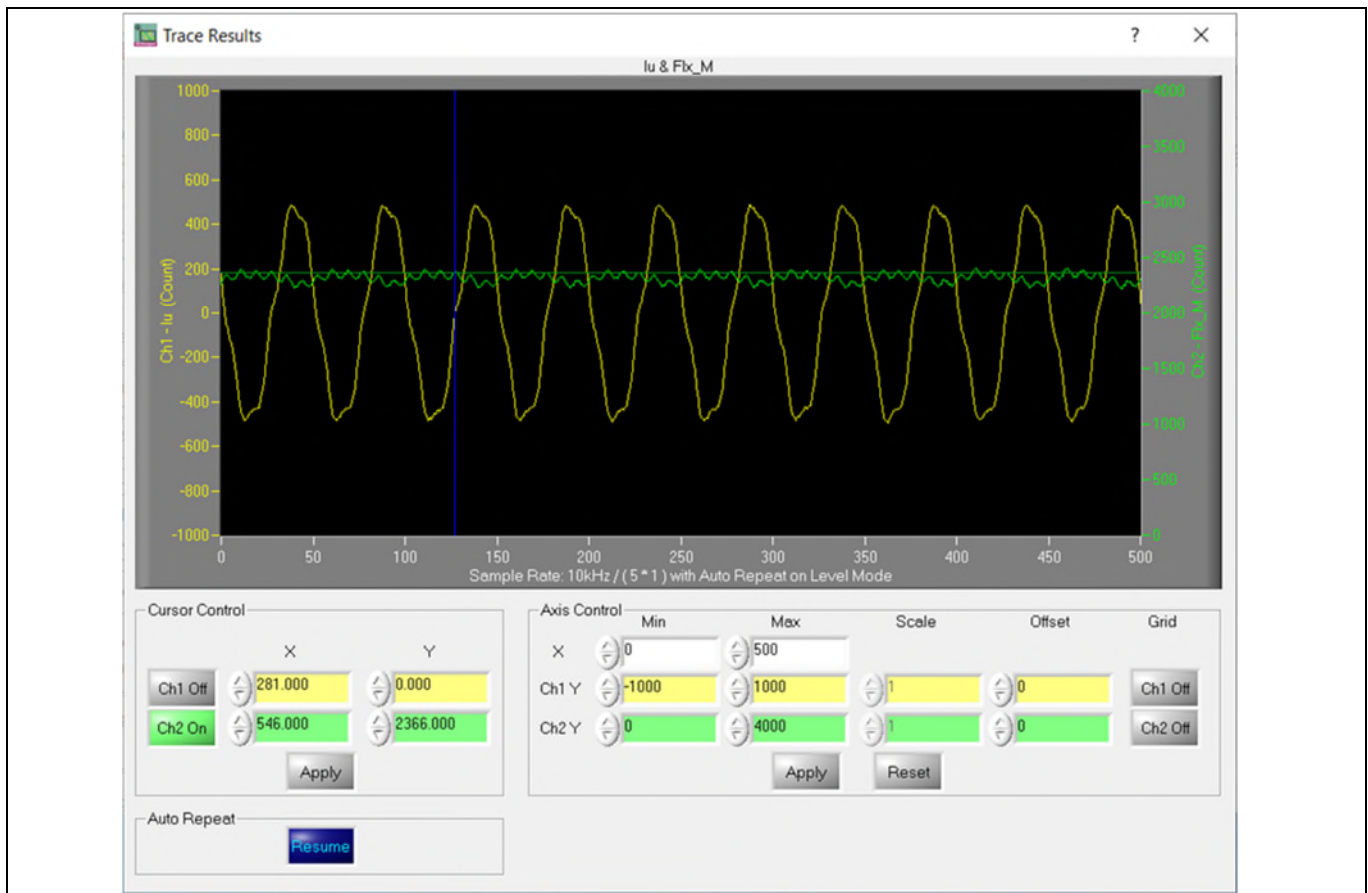

Figure 11 Trace waveform for I_u & $Flx-M$ at 50% speed
15. Set the target speed to about 50% of the maximum speed and start the I_u & Flx_M trace with Auto Repeat on Level Mode (see Figure 11.) Flx_M is better within the range of 2000 to 2500 (rated value is 2048), and must be steady and DC-like.